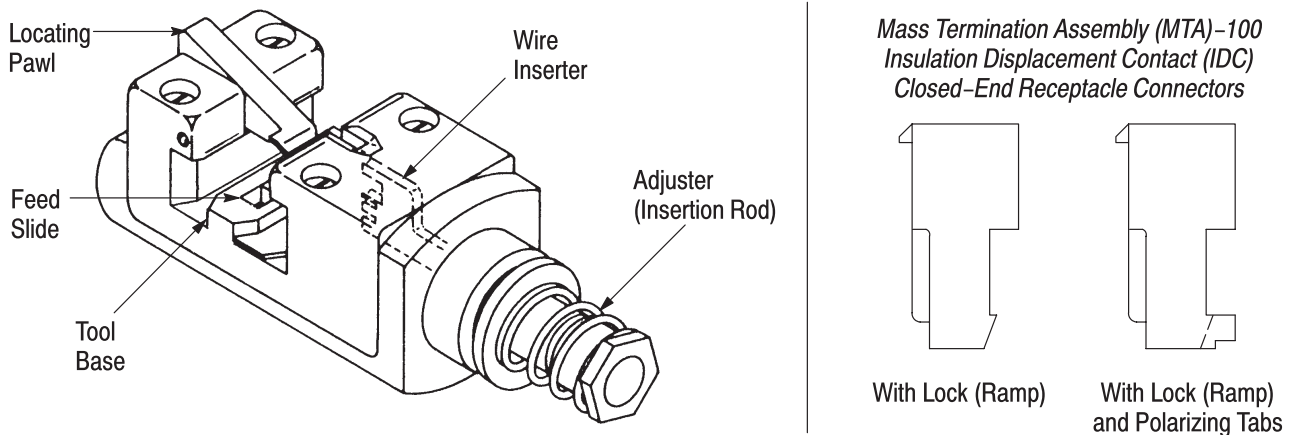

Figure 1
Terminating Head 58246-3 (shown in Figure 1) is designed to terminate discrete wire, jacketed cable, or ribbon cable in MTA-100 IDC closed-end receptacle connectors with lock (ramp) and with lock and polarizing tabs. Slotted contacts for insulation displacement termination are pre-assembled on 2.54-mm [.100-in.] centerlines in each color-coded housing for a specific wire size.
The head serves as a guide and support for the connector during termination. Features of the head (shown in Figure 1) and their function are as follows.
3. Align the contact to be terminated with the wire inserter of the head (shown in Figure 1). Make sure that the locating pawl rests between the connector index ribs.